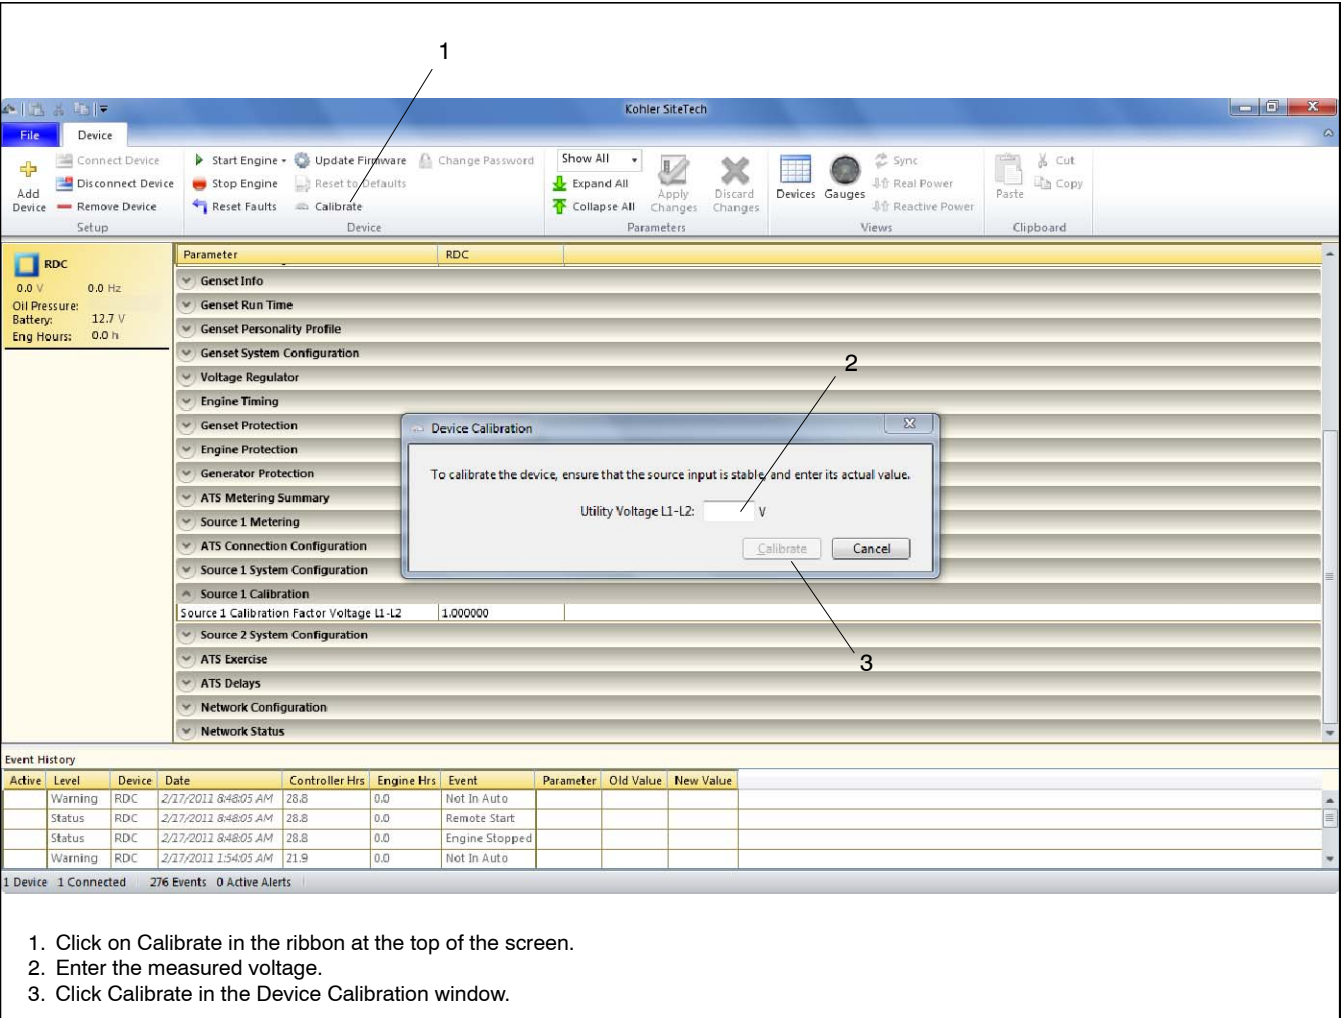

Figure 10-7 Calibration
The RDC/DC controller can be calibrated using SiteTech™. SiteTech™ software version 2.2 or higher is required for the calibrate function. See Figure 10-7.
2. Click on Calibrate in the ribbon at the top of the SiteTech™ screen. See Figure 10-7.